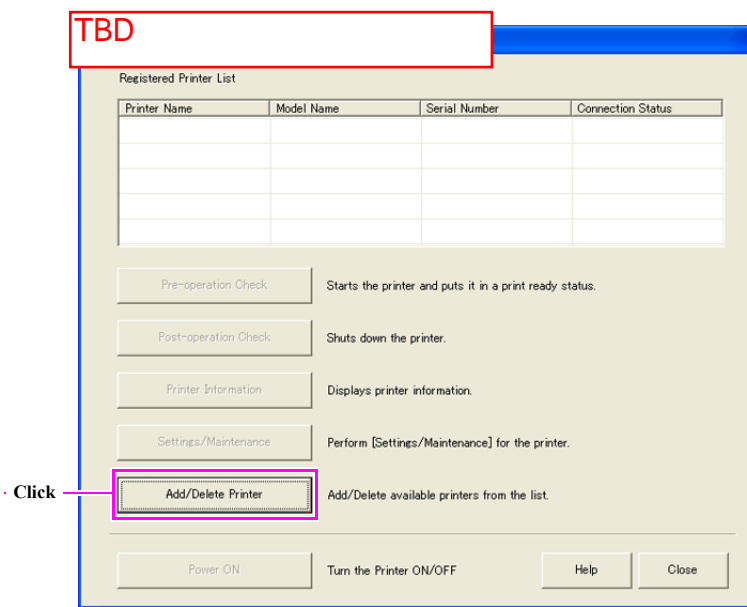

Figure 3-51. SL-D3000 Series Maintenance Utility Screen
(See Figure 3-51)
10. Click [Back] to return to the SL-D3000 Series Maintenance Utility screen (See Figure 3-51).
- **When frequently conducting printer startup and shutdown, click [Power ON] (See Figure 3-51) on the Printer Selection screen to quickly start up or shut down the printer. (This function enables faster printer startup and shutdown by skipping the internal processing normally performed. Therefore, do not use this function during normal printer usage.)**
1. Click **[Printer Information]** (See Figure 3-51). After the button is clicked, the Printer Information screen appears.
2. Click **[Settings/Maintenance]** (7). After the button is clicked, the Maintenance screen appears. (See Table 3-1 for details on the contents of the screen.)